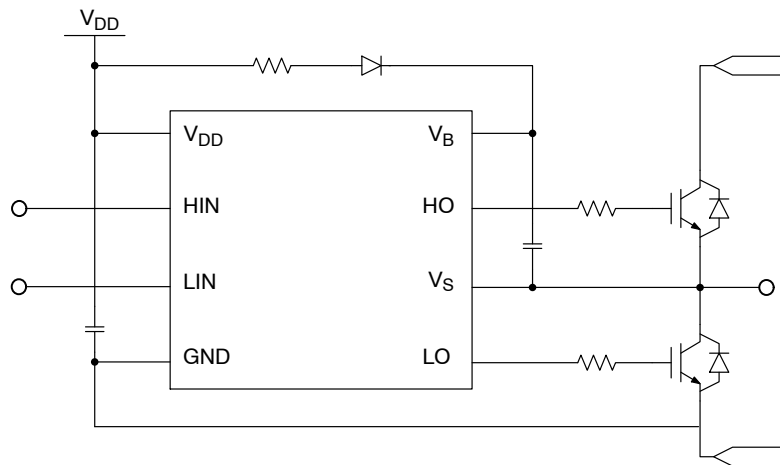

Figure 2. Simplified Application Schematics
| High-Side Offset Voltage (see Figure 2) | V_S | -900 | 900 | V |
| High-Side Supply Voltage (see Figure 2) | V_B | -900 | 900 | V |
| High-Side Output Voltage (HO) (see Figure 2) | V_{HO} | $V_S-0.3$ | $V_{BS}+0.3$ | V |
| High-Side Offset Voltage (see Figure 2) | V_S | -800 | 800 | V |
| High-Side Output Voltage (HO) (see Figure 2) | V_{HO} | V_S | V_{BS} | V |